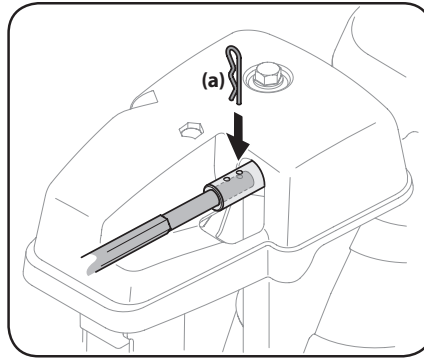

Figure 2-29
7. Push chute control rod toward control panel until hole in rod lines up with hole in chute control input closest to chute control head and insert hairpin clip (a) removed in Step 1. See Figure 2-29.